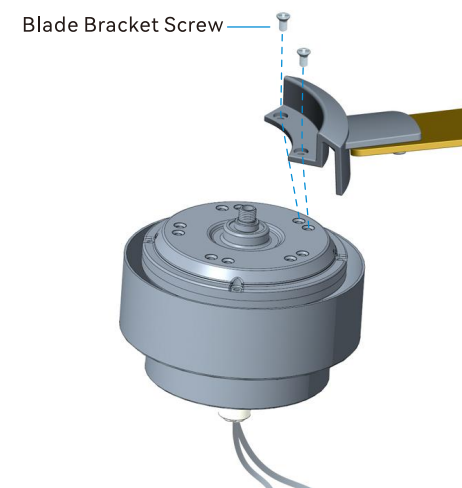

Fig 2.1
2.1 Attach the prepared blade bracket to the motor housing using the blade bracket screws, as shown in Fig 2.1.